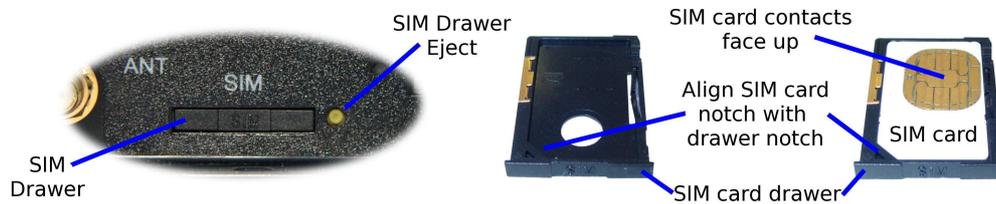

Figure 14: SIM card eject button.
- The SIM card drawer eject button is a small yellow button located next to the SIM drawer on the rear panel of the Series 2000. Refer to the image on the left of Figure 14 for the location of the SIM card eject button. To eject the SIM card drawer press the SIM card drawer eject button using a suitable tool and remove the drawer.
- Insert the SIM card into the SIM card drawer with the contacts facing up, as shown on the right of Figure 14.